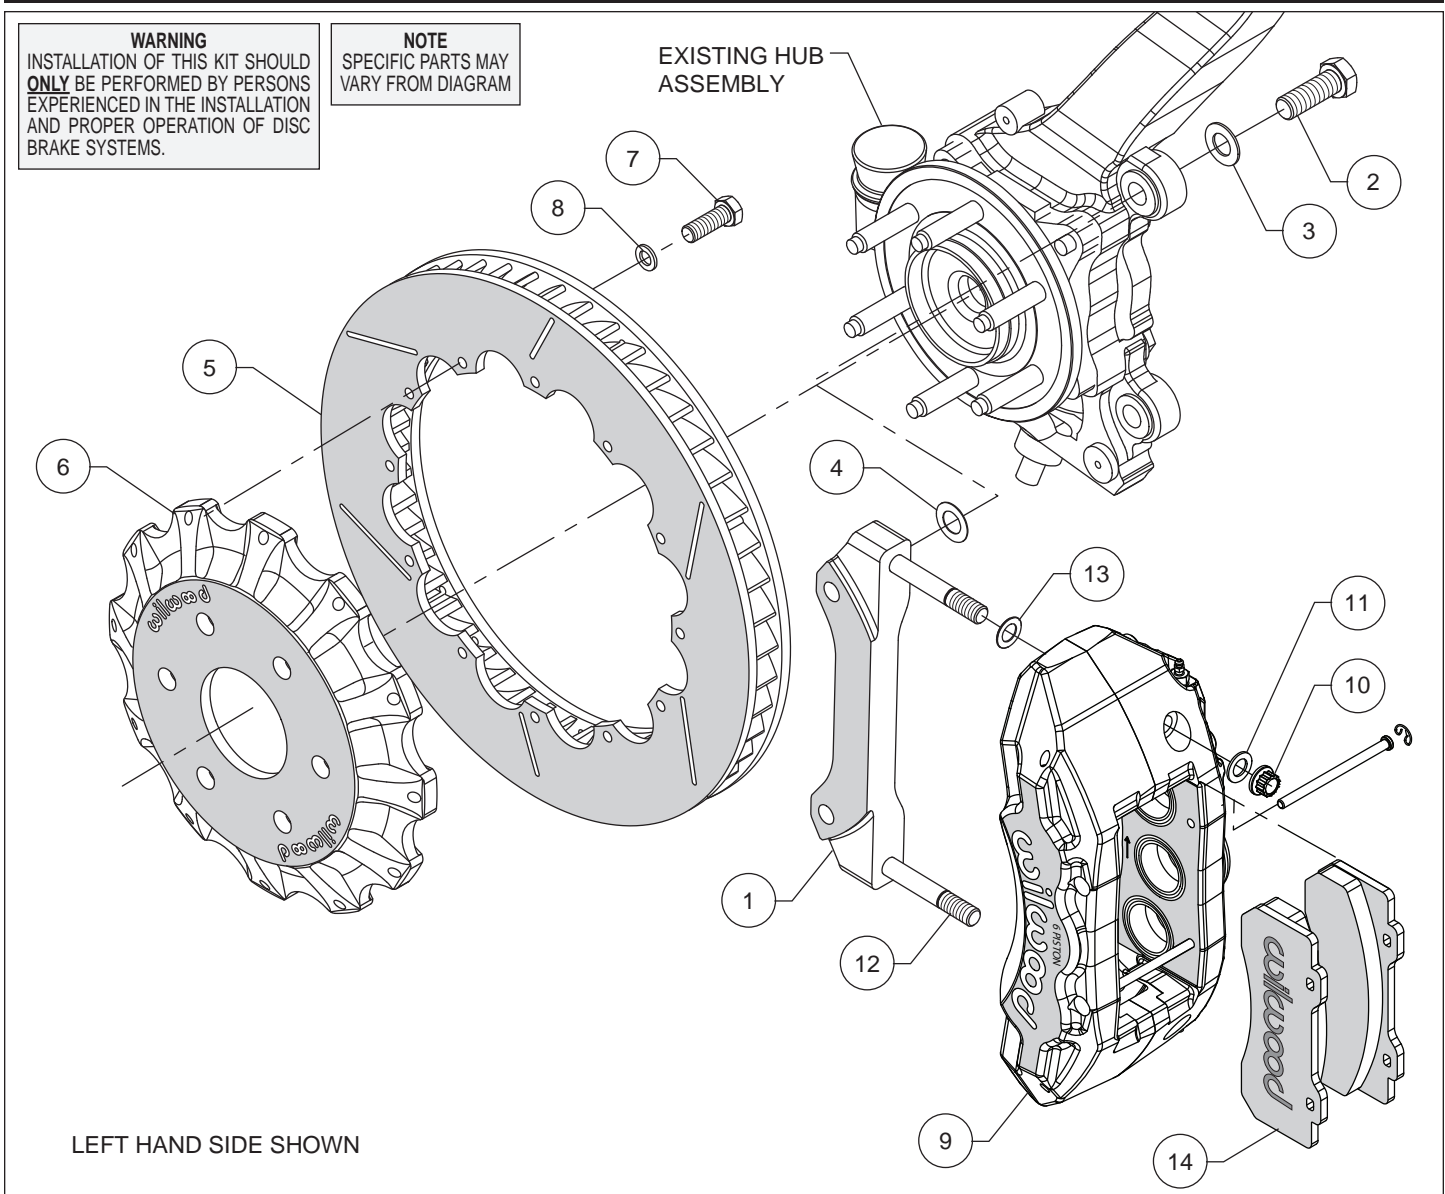
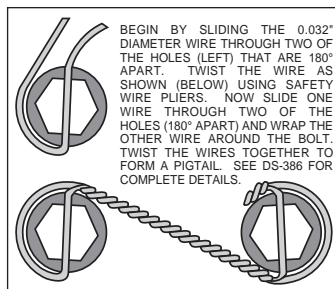

Figure 1. Typical Installation Configuration
Figure 3. Safety Wire Diagram
**Assembly Instructions** (numbers in parenthesis refer to the parts list and Figure 1 on the preceding pages):
- The caliper mount bracket (1) should initially be installed with clean, dry threads on the mounting bolts. Orient the bracket as shown in Figure 1 and Photo 1, and install using bolts (2) and washers (3). Initially place one .024 thick shim (4) on each bolt between the bracket and upright, Figure 1. Temporarily tighten the mounting bolts. **NOTE: The bracket must fit squarely against the mount bosses on the upright.** Inspect for interference from casting irregularities, machining ridges, burrs, etc. Later, after the caliper alignment has been checked, the mount bolts will be secured using red *Loctite*® 271.
- Orient the rotor (5) and the hat (6) as shown in Figure 1 and Photo 2. Attach rotor to hat using bolts (7) and washers (8). Using an alternating sequence, torque to 25 ft-lbs. For an added measure of security, the bolts may be safety wired using standard 0.032 inch diameter stainless steel safety wire as shown in Figure 3. Refer to Wilwood's data sheet DS-386
- NOTE: This kit contains distinct right and left hand calipers that must be mounted in a specific direction, as described below.** Lubricate the caliper mounting studs (12) with lightweight oil. Initially place one .032" thick shim (13) on each stud as shown in Figure 1 and Photo 3. Mount the caliper (9) onto the bracket (1) using lock nuts (10) and washers (11), Figure 1. Ensure that the caliper is mounted so that the largest pistons are at the rotor exit end of the caliper, in relation to the direction of rotor rotation. Temporarily tighten the lock nuts and view the rotor through the top opening of the caliper. The rotor should be centered in the caliper, Photo 4. If not, adjust by adding or subtracting shims (4) between the bracket and the upright. Always use the same amount of shims on each of the two mounting bolts. Once the caliper alignment is correct, remove the bracket mounting bolts (2) one at a time, apply red *Loctite*® 271 to the threads, and torque to 120 ft-lb.